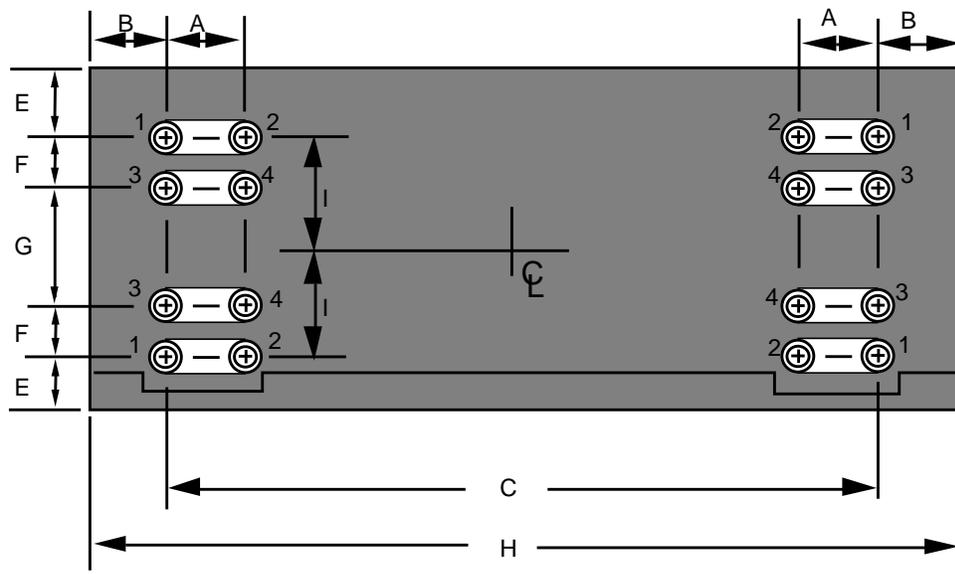

Figure 2-2. Floor Drilling
2-1. Dimensions for Figure 2-2
- Step 6:* Use Figure 2-2 as a drilling template which specifies the hole locations in the framework base. Use location 1 first; then location 2 if an obstruction in the concrete is hit; then 3 and 4, if necessary. The number of drillings is dependent upon the earthquake zones and local building practices.
Table 2-1. Dimensions for Figure 2-2